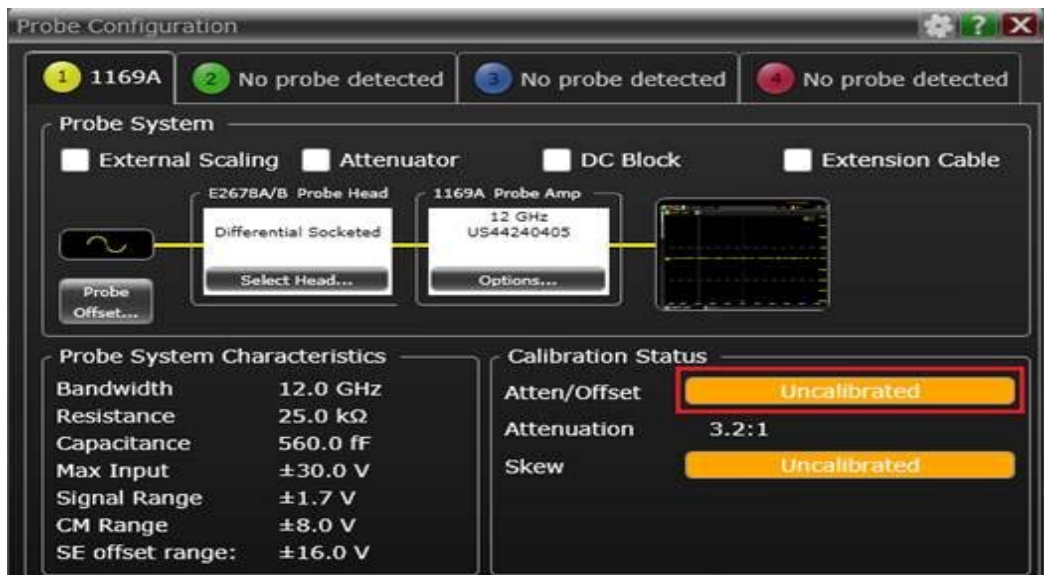

Figure 54 Probe Setup dialog
- 3 In the **Probe Configuration** dialog, click the **Uncalibrated** button (either for **Atten/Offset** or for **Skew**) in the **Calibration Status** area, as shown in Figure 54.